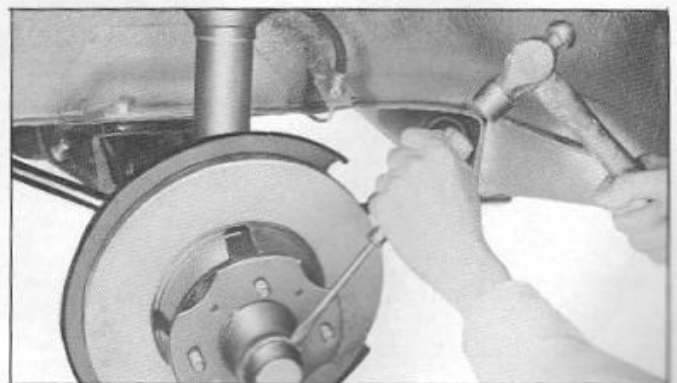

Fig. FA-14 Removing hub cap
3. Remove the hub cap with a flat-headed (-) screw driver or other proper tool and hammer as shown in Figure FA-14.